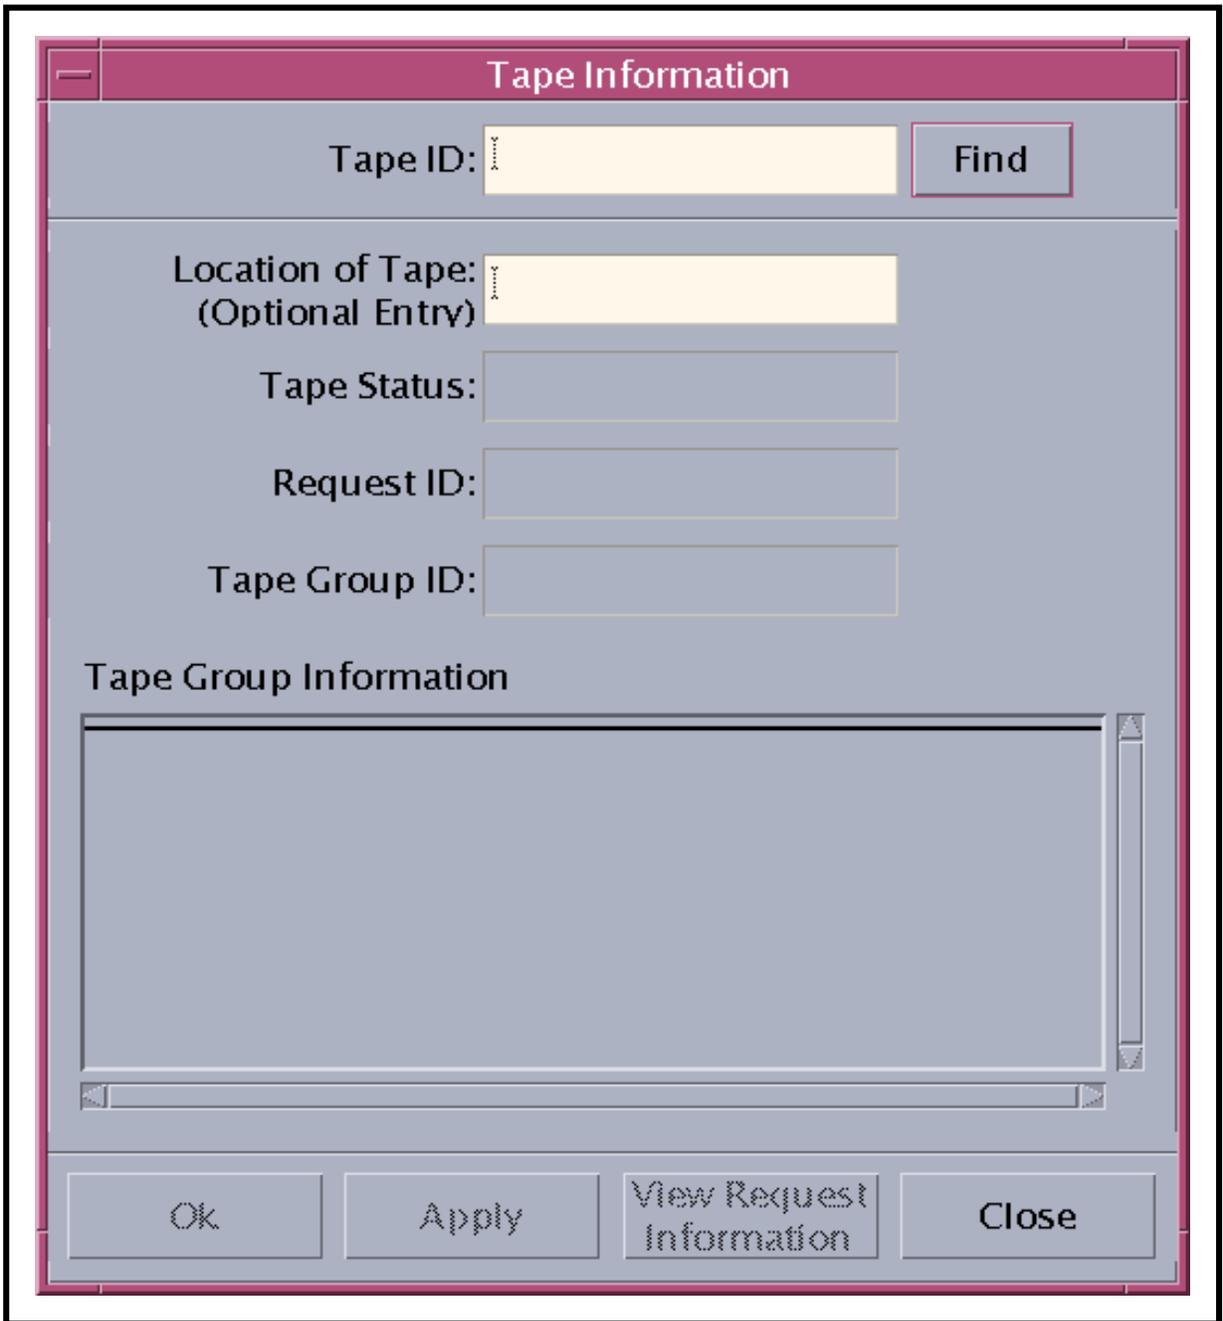

Figure 21. Tape Information Window (Storage Management Control GUI)
- The **Tape Information** window (Figure 21) is displayed.